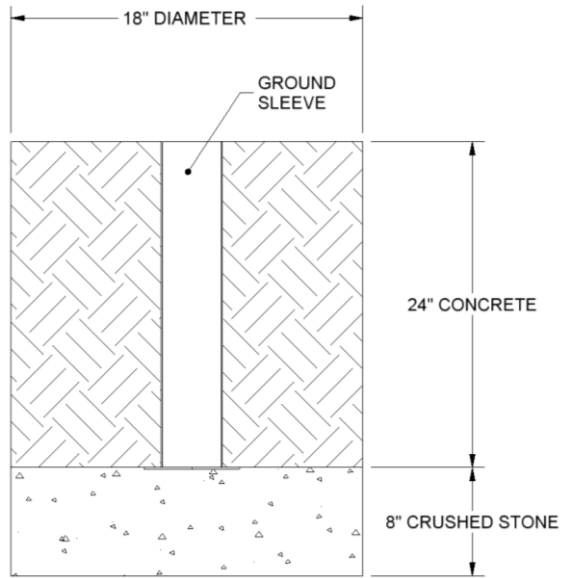

FIGURE: 2 – FOOTING DETAIL
- 5) Dig footing holes and install the ground sleeves as shown in Figure 2. Allow the concrete to cure.